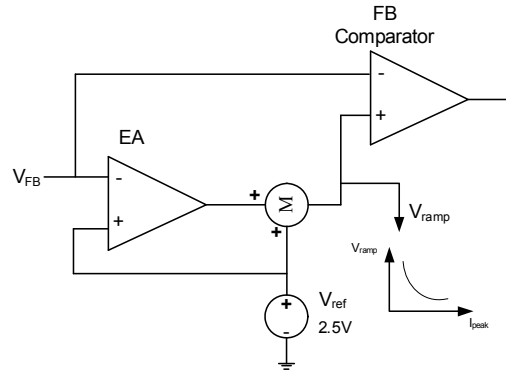

Figure 5: EA and Ramp Compensation
To improve load regulation, the MP155 implements an error amplifier (EA) compensation function (Figure 5). The MP155 samples the feedback voltage 6 μs after the MOSFET turns off. EA compensation regulates the 2.5V reference voltage with the load, thus improving the power module regulation.
An internal ramp compensation circuit precisely maintains the output voltage. An additional exponential voltage sinking source pulls down the feedback comparator’s reference voltage as shown in Figure 5. The ramp compensation is relative to the load conditions: Under full-load conditions, the compensation is $\sim 1\text{mV}/\mu\text{s}$; with a decreasing load, the compensation increases exponentially.